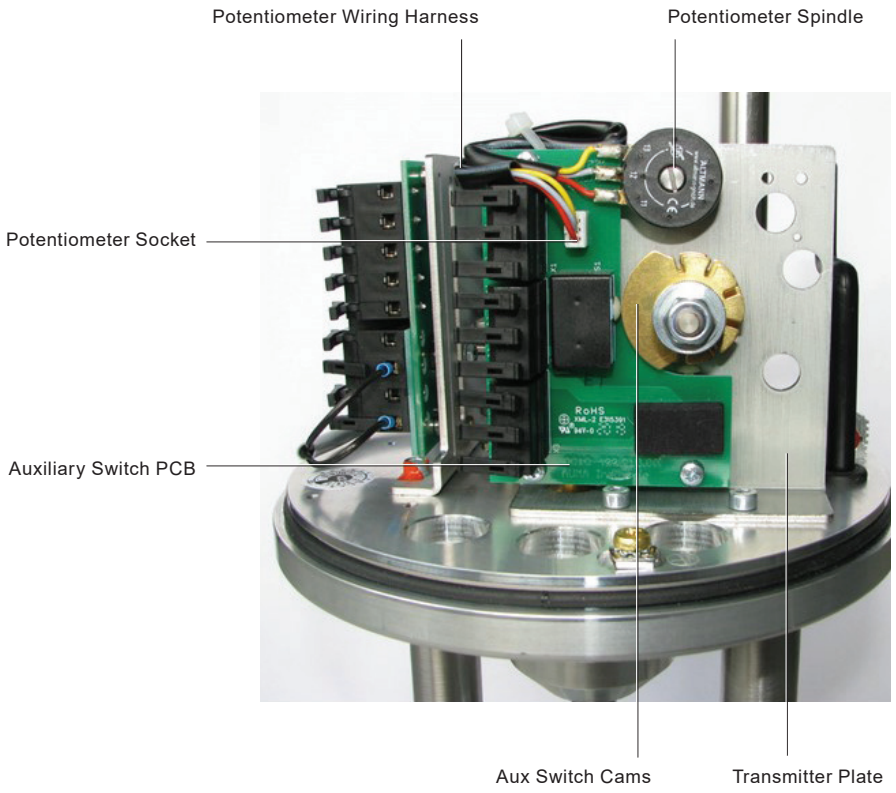

Fig. 11 Potentiometer Installation and Adjustment 1-6 kN (225 - 1349 lbf)
- Refer to Fig. 11 Potentiometer Installation and Adjustment (1 – 6 kN (225 - 1349 lbf)) for product orientation
- Connect the wiring harness to the potentiometer socket as detailed in Fig. 11 Potentiometer Installation and Adjustment 1-6 kN (225 - 1349 lbf)